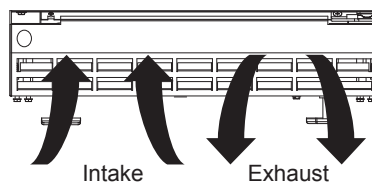

Figure 2
- 8 Position the unit to allow free air flow through the front grille (Figure 2).